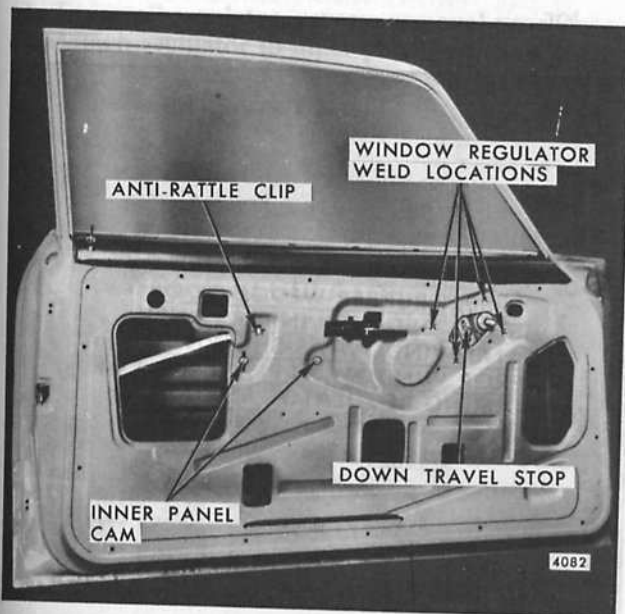

Fig. 5-121-Window Removal and Adjustment - Typical Door for "H" and "X" Styles
- The inner panel cam (Fig. 5-121) is adjustable and can correct a rotated ("cocked") window assembly.
- Window down-travel is determined by the position of the down-travel stop on "H" (less "07, 27") and "X" styles. "H-07 and 27" styles do not have an adjustable down stop. To adjust down-travel, loosen stop (Fig. 5-121 - "H" (less 07, 27) styles, Fig. 5-67 - "X" styles) and adjust glass to desired height at beltline. Position stop to contact glass ("X" styles) or regulator ("H" styles) and torque attaching screw to 60 to 90 inch-pounds.
- Lower window to half-down position and remove inner panel cam (Fig. 5-121).